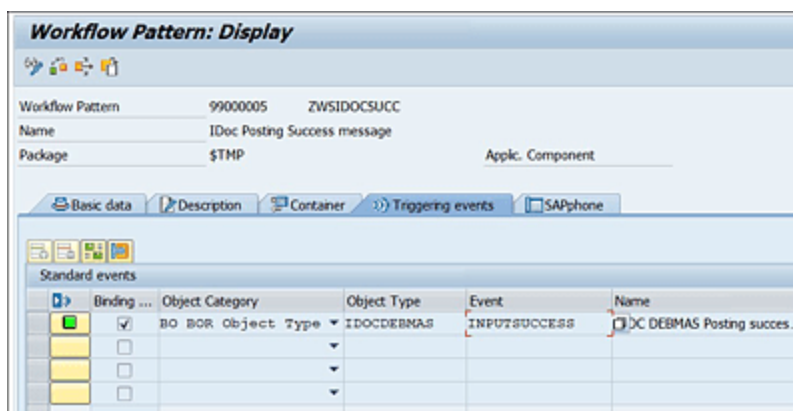

Figure 9.11 Event Linkage Entry with IDoc Object Type, Success Event, and Custom Workflow
4. Once the workflow is created, open the workflow from Transaction PFTC, and navigate to the **Triggering events** tab. Here, add an entry for your IDoc business object type and success event per the details from process code settings in Transaction BD67 (refer to Figure 9.10). Figure 9.11 shows the details of the event linkage with workflow. Here, you enter the **Object Type** as "IDOCDEBMAS", enter the **Event** as "INPUTSUCCESS", and then maintain the **Binding** as prompted by the system with a suitable object type container element. Finally, activate the event linkage by clicking the button beside the event linkage entry (far left of **Standard events** table) so that it turns green. Capture the entry into a Customizing transport when prompted.